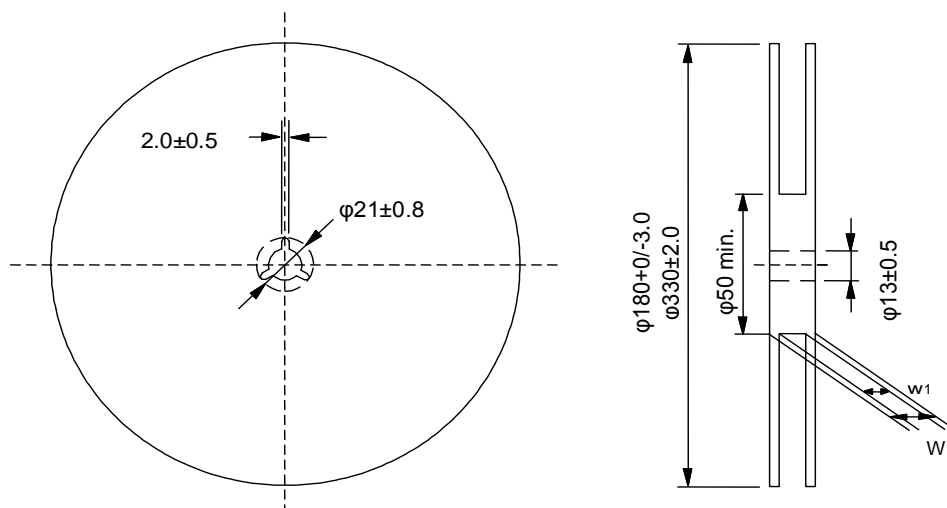

Fig.3 Taping Diagram
1.3 Tapes for capacitors are wound clockwise shown in Fig.3.